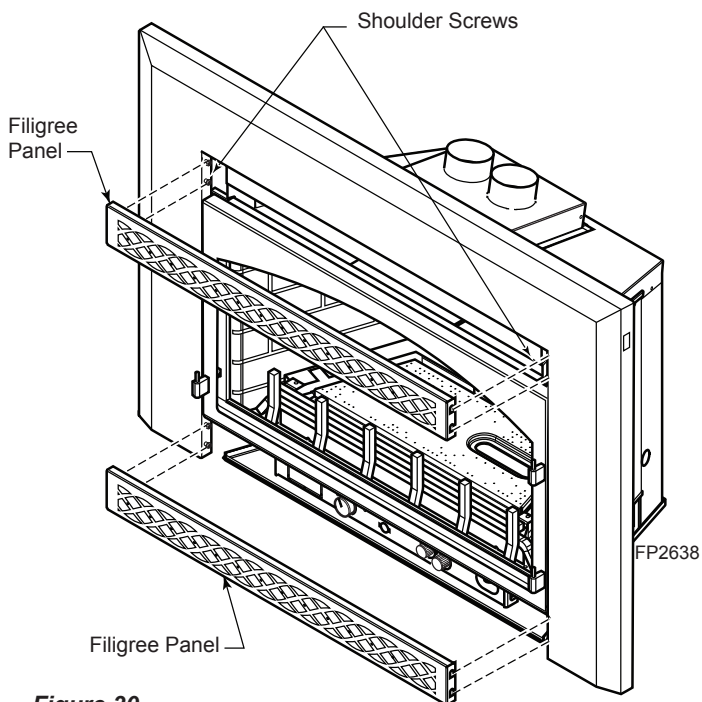

Figure 30 - Install Filigree Door Panels
2. Slide top filigree panel on to four (4) shoulder screws located on the top of the surround. Slide bottom filigree panel on to four (4) shoulder screws located on the bottom of the surround. *Figure 30*